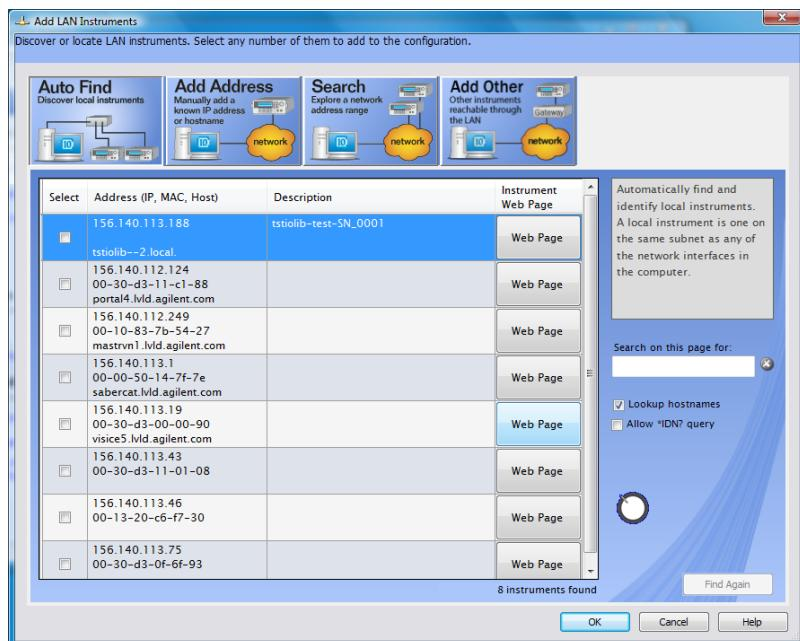

Figure 35 Add LAN Instruments Auto Find Dialog Screen
- 2 This opens the Add LAN Instruments dialog box (see Figure 35). The **Auto Find** tab is preselected.